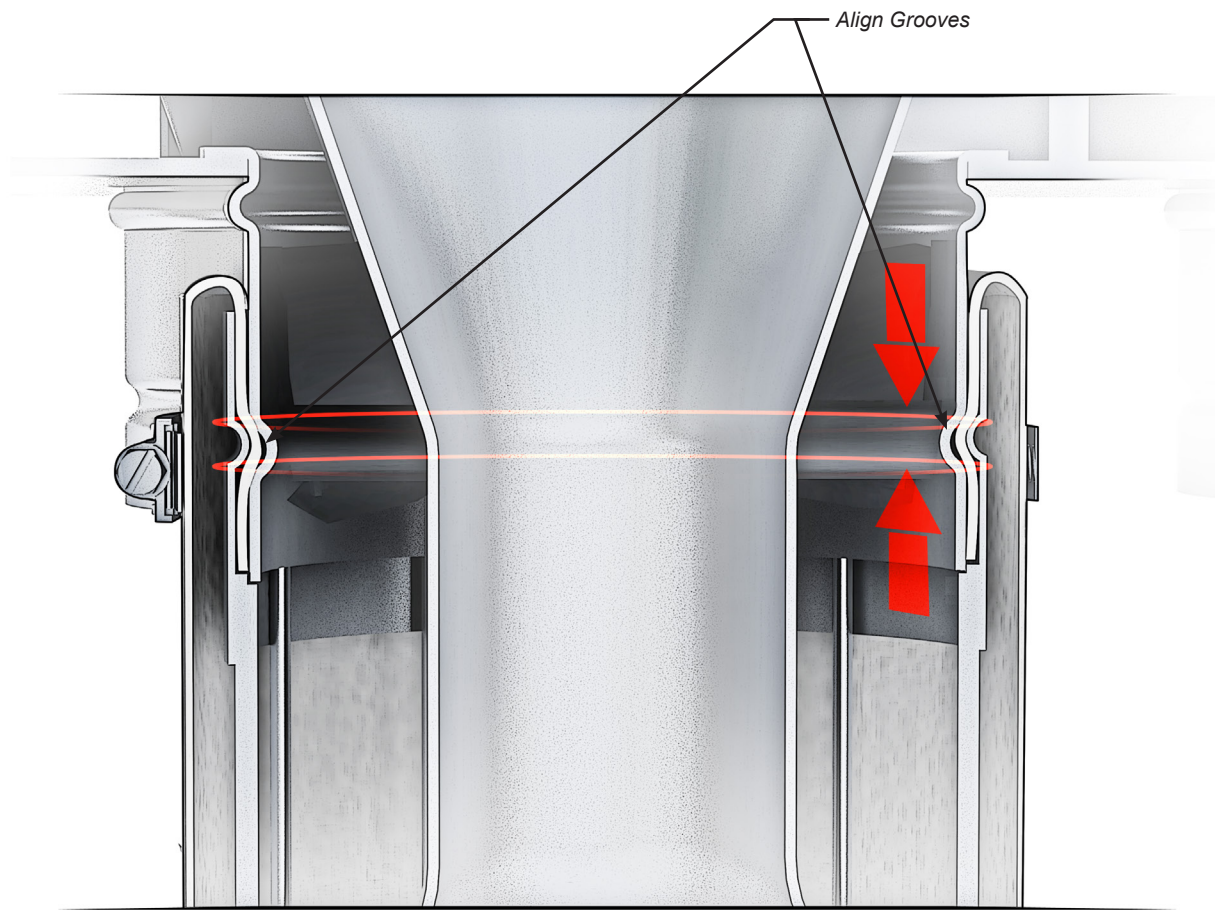

FIGURE 11
- 6. Match the groove in the retainer sleeve with the groove in the tube sheet collar to prevent the assembly from slipping off (see Figure 11).